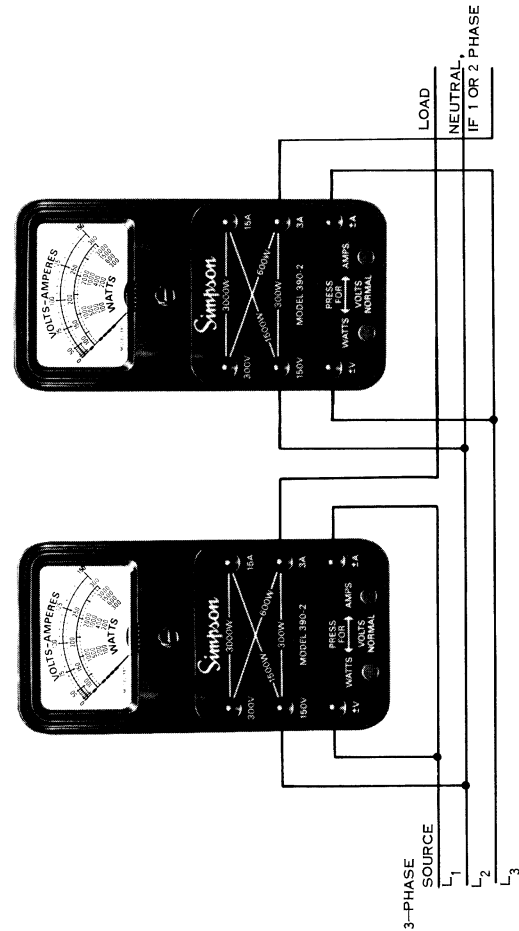

Figure 4-4. Connections for Measurement in Single, Two and Three Phase AC Three-Wire Circuits
**4.2.9** When testing a 240-VAC line operated device, make up a 120-240 VAC adapter set as shown in Figure 4-4. Be sure the outlet used is correctly wired as discussed in paragraph 4.2.7.
Figure 4-4 shows the connections for measuring power in a single phase, two or three phase, three-wire circuit using two Model 390-2 wattmeters. If a reading is obtained on both meters, the true power is the sum of the two readings. If the pointer of one meter deflects to the left of zero, it means that the power factor is less than 50% and the connection to the voltage terminals for that meter should be
reversed. The reading then obtained should be subtracted from the reading of the other meter. If the power factor is exactly 50%, one meter will indicate zero. If only one Model 390-2 is available, connect it successively in the two positions as shown in Figure 4-4.